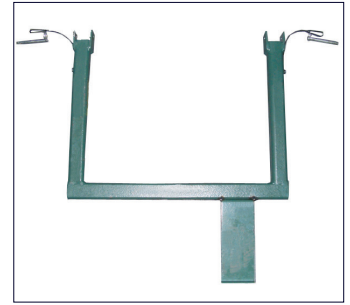
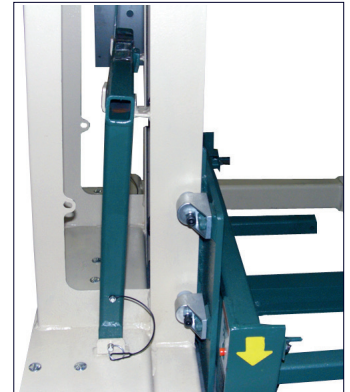

Figure 56: Auxiliary tray adapter
Figure 57: Auxiliary tray adapter storage on lift truck
2. Remove the rollout auxiliary tray adapter (refer to Figure 56: Auxiliary tray adapter) from its storage location (refer to Figure 57: Auxiliary tray adapter storage on lift truck) and install it as shown in Figure 52: Lift truck forks with auxiliary tray adapter on page 90 with the pins provided.